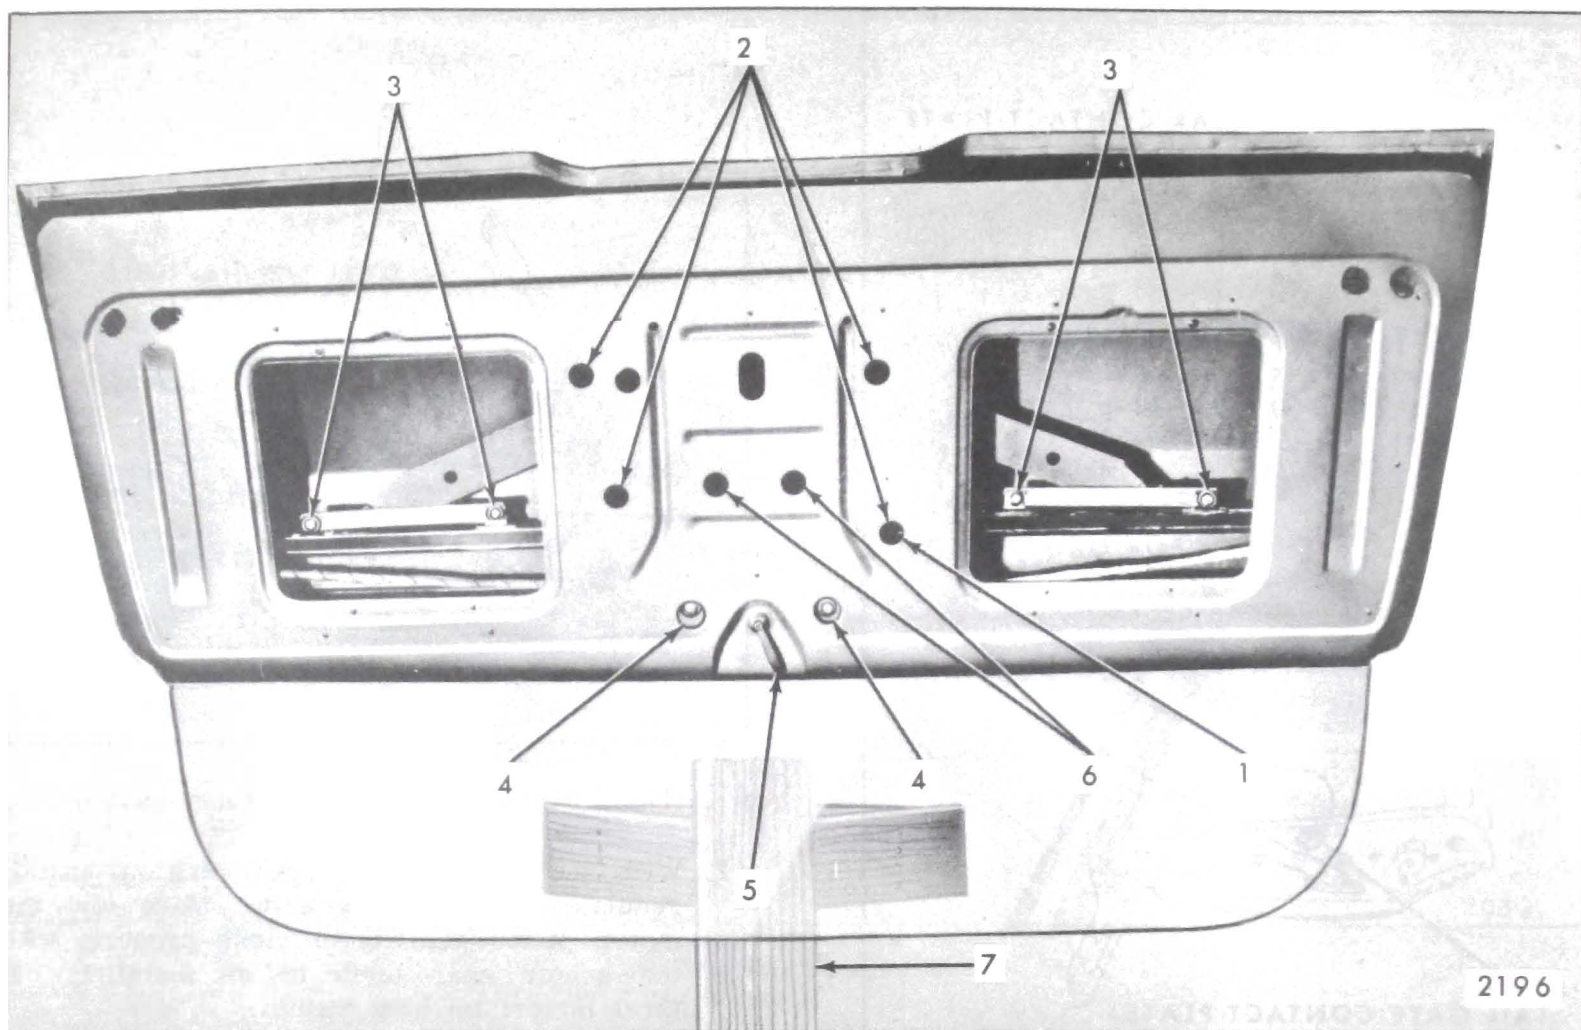

Fig. 9-38—Tail Gate Window Hardware
2. Position tail gate window so that outside handle (or key switch) attaching nuts are accessible through gate inner panel and window regulator access holes. (See Fig. 9-38.)